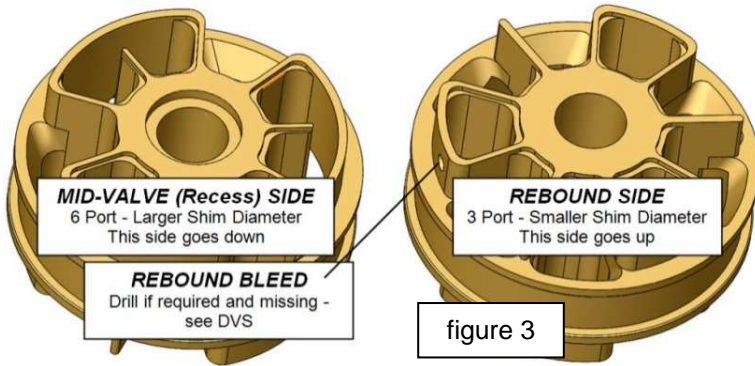

figure 3
- V2 **Install the Gold Valve with the Recess and the Large Ports facing down towards the Mid-Valve Compression Stack (figure 3).**